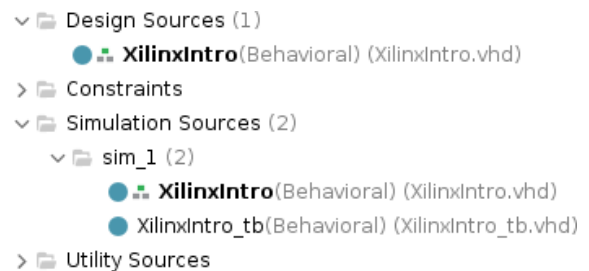

Figure 8: Sources hierarchy so far
20. Verify that the new testbench and previous design source appear under the 'Simulation Sources' directory in the **Sources** view. It should appear as shown in Figure 8.